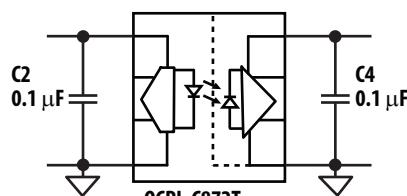

Fig 29. Bypass Capacitors C2, C4
0.1  $\mu F$  bypass capacitor must be connected as near as possible between  $V_{DD1}$  to GND1 and  $V_{DD2}$  to GND2 (Figure 29).